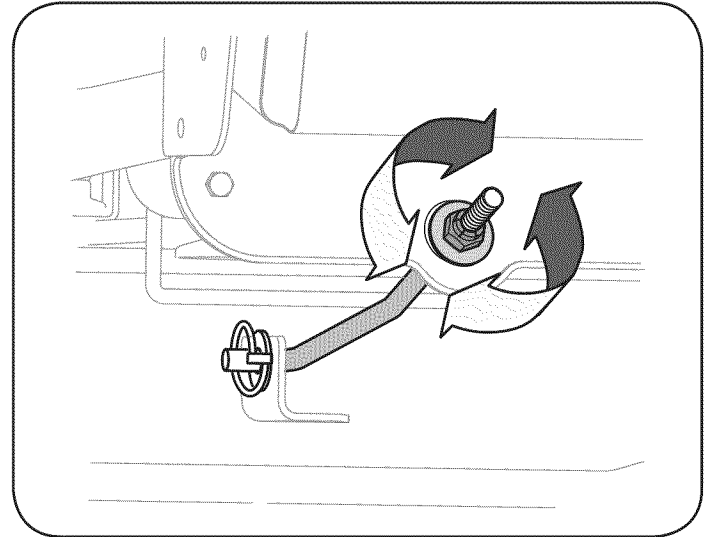

Figure 26
1. To **raise** the front of the deck, tighten (thread inward) the lock nut against the front hanger bracket. See Figure 26.
2. To **lower** the front of the deck, loosen (thread outward) the lock nut, away from the front hanger bracket. See Figure 26.